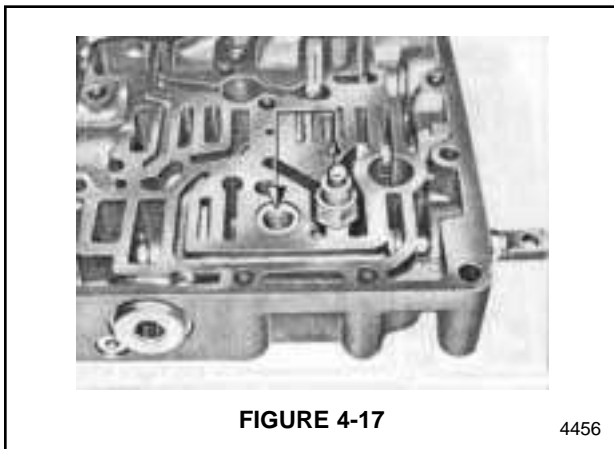

FIGURE 4-17
7. Install check ball (17) into valve body (20). See Figure 4-17. Install spring (14) on top of check ball. Spring length is 20.1 mm (.79"). Install O-ring (13) and thread plug (11) into valve body.
8. Install check ball (16) into valve body (20). See Figure 4-17. Install spring (15) on top of check ball. Spring length is 20.1 mm (.79"). Install O-ring (12) and thread plug (11) into valve body.